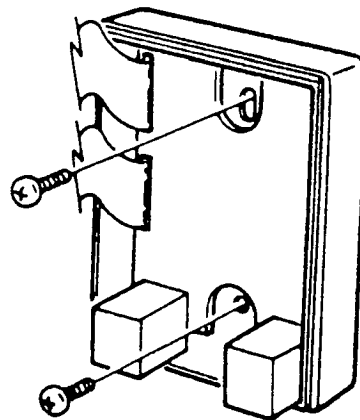

Figure 1-47 Attaching the SLT-F(1G)-10 ADP to the Wall
2. Using the two provided wood screws, attach the unit to the wall. Close the unit and secure with the two screws previously removed. [Refer to Figure 1-47 - Attaching the SLT-F(1G)-10 ADP to the Wall.]